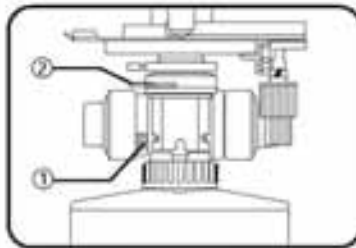

Fig. 21
### 6 Adjusting the Condenser Position and Iris Diaphragm (Fig. 21 & 22)
- ② The condenser is usually used in the highest position. If the entire observed field of view is not bright enough, brightness may be improved by lowering the condenser slightly.
1. Move the condenser to the highest position by rotating the condenser up-down movement knob ①. (Fig. 21)